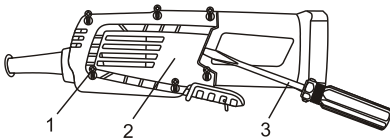

Fig. 8
3. Lay the tool on its left side on a towel or on corrugated (Fig. 8).
4. Remove 6 screws (1) from the right hand side of the handle using a #2 (+) screwdriver.
5. Carefully pry off the right half of the handle (2) using a small slot screwdriver (3).